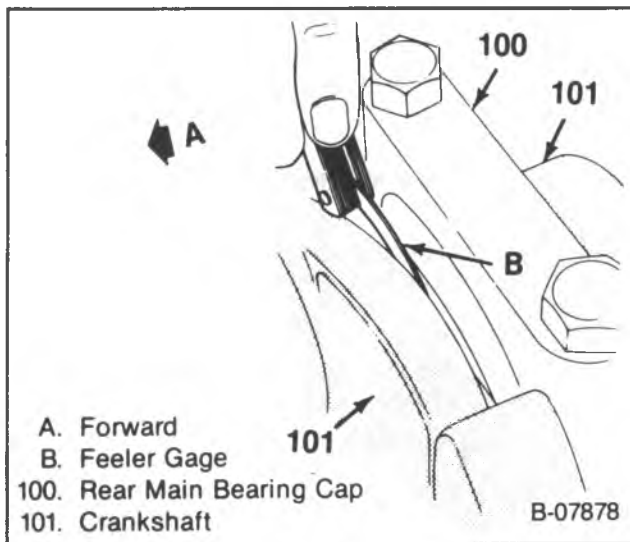

Figure 34 — Measuring Crankshaft End Play
- With the crankshaft forced forward, measure at the front end of the rear main bearing with a feeler gage (figure 34). The proper clearance is 0.006-0.010-inch (0.152-0.254 mm).